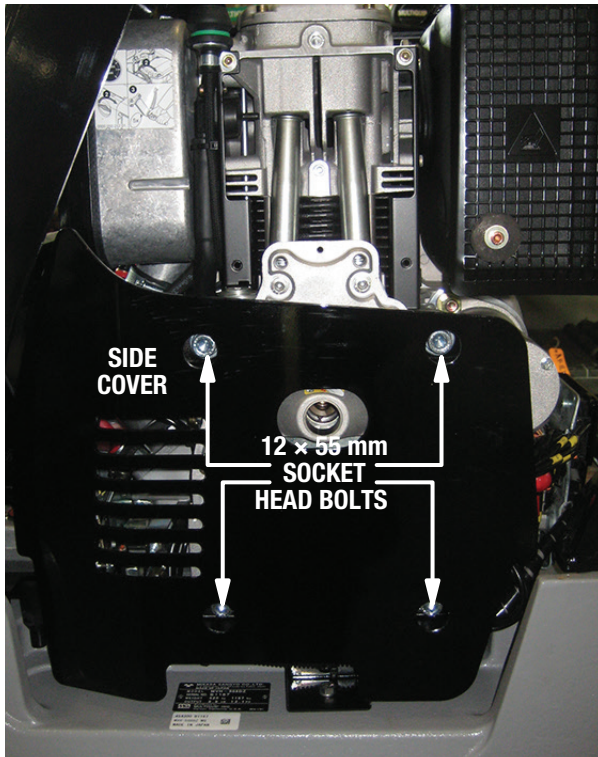

Figure 18. Side Cover Removal (MVH508DZ)
- Remove and set aside the four 12 × 55 mm socket head bolts securing the side cover to the compactor (Figure 18). Remove the side cover and set it aside.